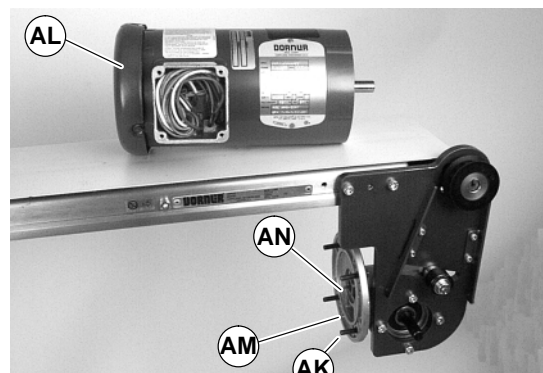

Figure 28
4. Remove four screws (AK of Figure 28). Detach motor (AL) from gear reducer (AM). Retain motor output shaft key (AN).